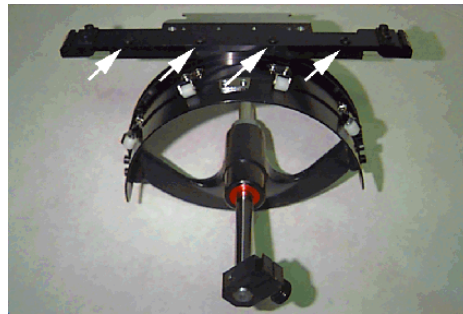

Figure 6-10
2. Loosen the four button-head screws across the top of the drive bracket (see *Figure 6-10*).